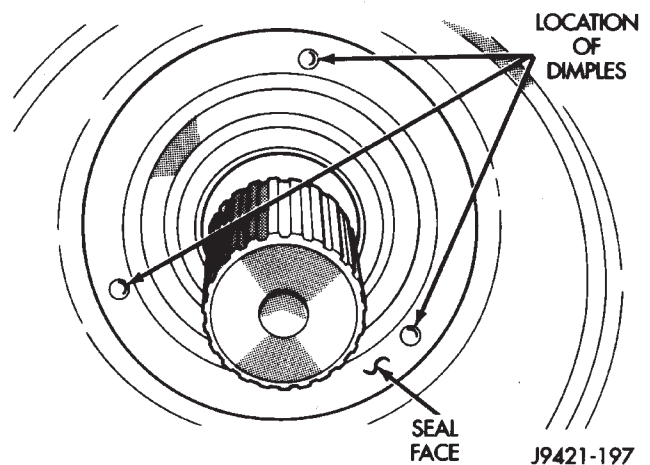
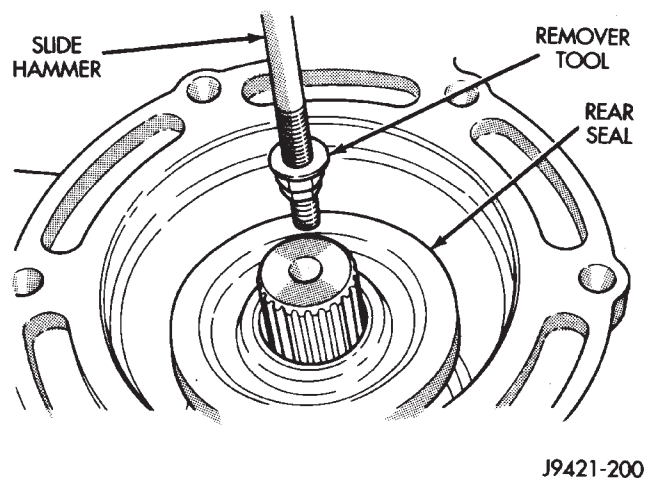

Fig. 33 Location Of Dimples In Seal Face—4WD
Fig. 34 Rear Seal Removal—4WD
- (1) Locate dimples in face of rear seal (Fig. 33). Use a suitable slide hammer mounted screw to remove seal by inserting screw into seal at dimple locations (Fig. 34).